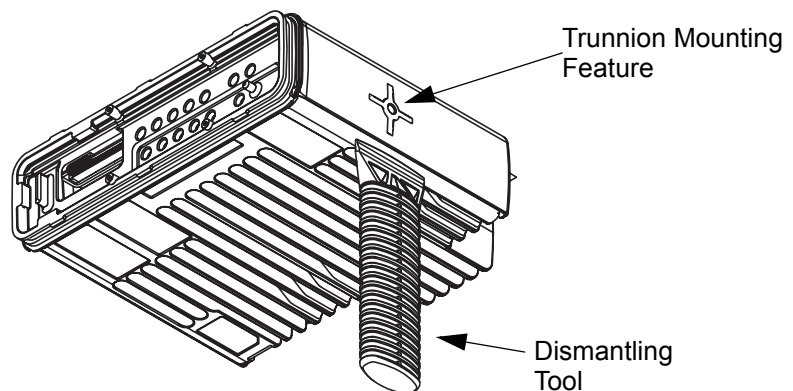

Figure 5-3 Top Cover Removal
1. Insert the dismantling tool between the top cover and the chassis as shown in Figure 5-3.